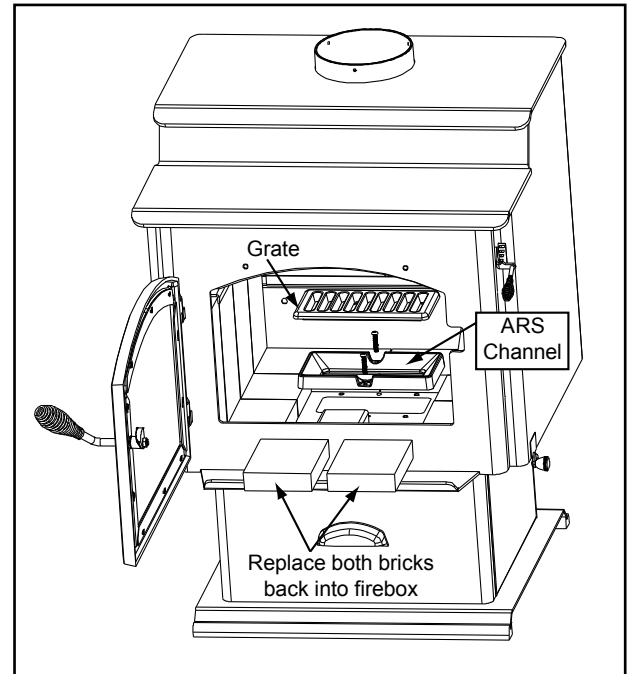

Figure 22.2
1. Re-install the ARS channel that was removed in Step 3 on page one and secure with 2 bolts previously removed. Set the grate into the ARS channel. Replace the 2 front cut bricks. **Figure 22.2.**
1. Follow steps 1 through 3 on **page 22**. See also **Figure 22.2**.